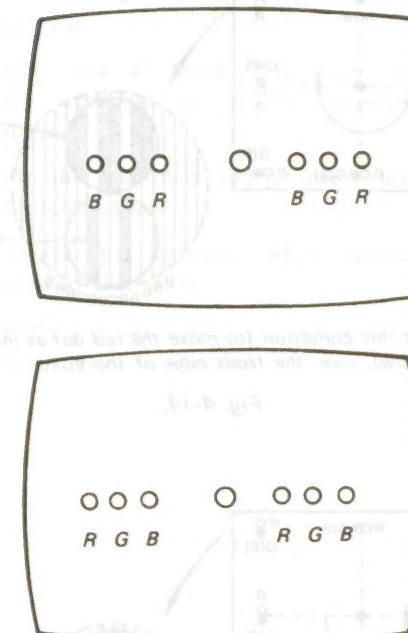

Fig. 4-12.
1. Adjust the TILT control (VR502) to obtain best horizontal convergence at both sides of screen. If correct convergence cannot be obtained, turn the TILT control to display the dot pattern shown in Fig. 4-12.